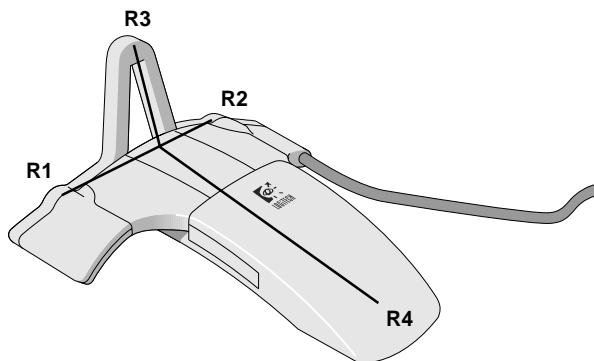

Figure B-1. 3D Mouse Points of Reference
- Shape the receiver as an equilateral or isosceles triangle, with the one unequal side as the base (see points R1 to R2 in Figure B-1).